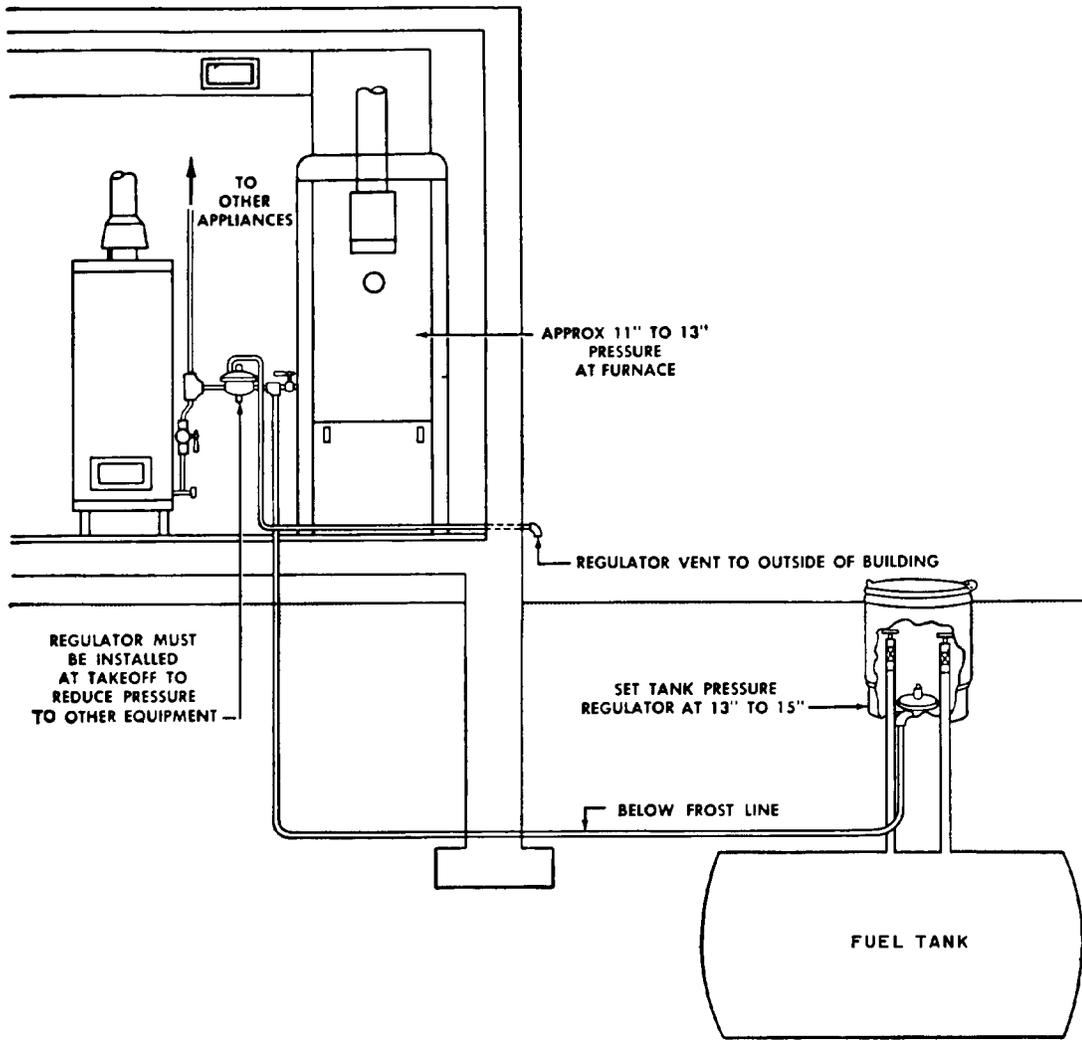

Figure 2-3. Typical LPG installation.
d. Installation and control of LPO systems. For furnace installations, pressure regulators are not required at the furnace. Take the pressure reading at the furnace manifold and set the pressure at the regulator on the liquefied petroleum tank or atomizer. Furnaces using LPG require a manifold pressure of 11 to 13 inches water gauge, whereas with natural gas, a pressure of 2.5 to 5 inches water gauge is required. Follow manufacturer's recommendations covering manifold pressures for liquefied petroleum gas at the furnace. If gas lines serving other appliances, such as water heaters, space heaters, or cooking appliances are taken from the line serving the furnace, an approved double-diaphragm, low-pressure regulator is installed in the take-off line or lines to reduce pressure in these lines to the required pressure. These regulators are vented to the outside of the building, not under the pilot as with natural gas. (See figure 2-3.) Furnaces are equipped with 100-percent-cut-off valves. That is, all gas, including pilot gas, is cut off if the pilot is extinguished. Furnaces with two or more pilots have a separate pilotstat for each pilot, all wired in series. Each of the small solenoid valves installed in the pilot line is wired in parallel with the usual main burner electric solenoid valve. If any pilot should go out, its pilotstat breaks the circuit and shuts off the gas supply for all main burners and pilots.